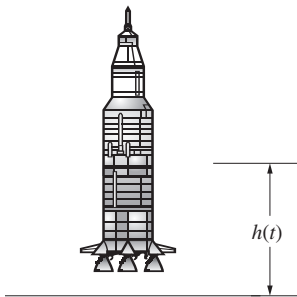

Figure P2.15 A model rocket for problem P2-15.
- 2-15.** A model rocket is launched in the vertical plane at time $t = 0$ s as shown in Fig. P2.15. The height of the rocket (in feet) satisfies the quadratic equation $h(t) = 128t - 16t^2$.